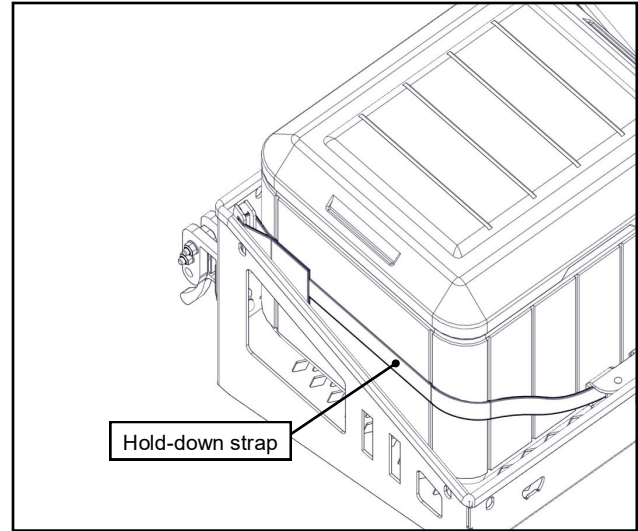

Fig. 4 (install adjustable length hold-down strap end)
4. Install the adjustable length E-track cam-buckle strap in the desired E-track slot location. Route the strap around the front of the cooler as shown in fig. 4. *Note: If you have chosen to use one of the alternate E-track slots, route the strap accordingly.*